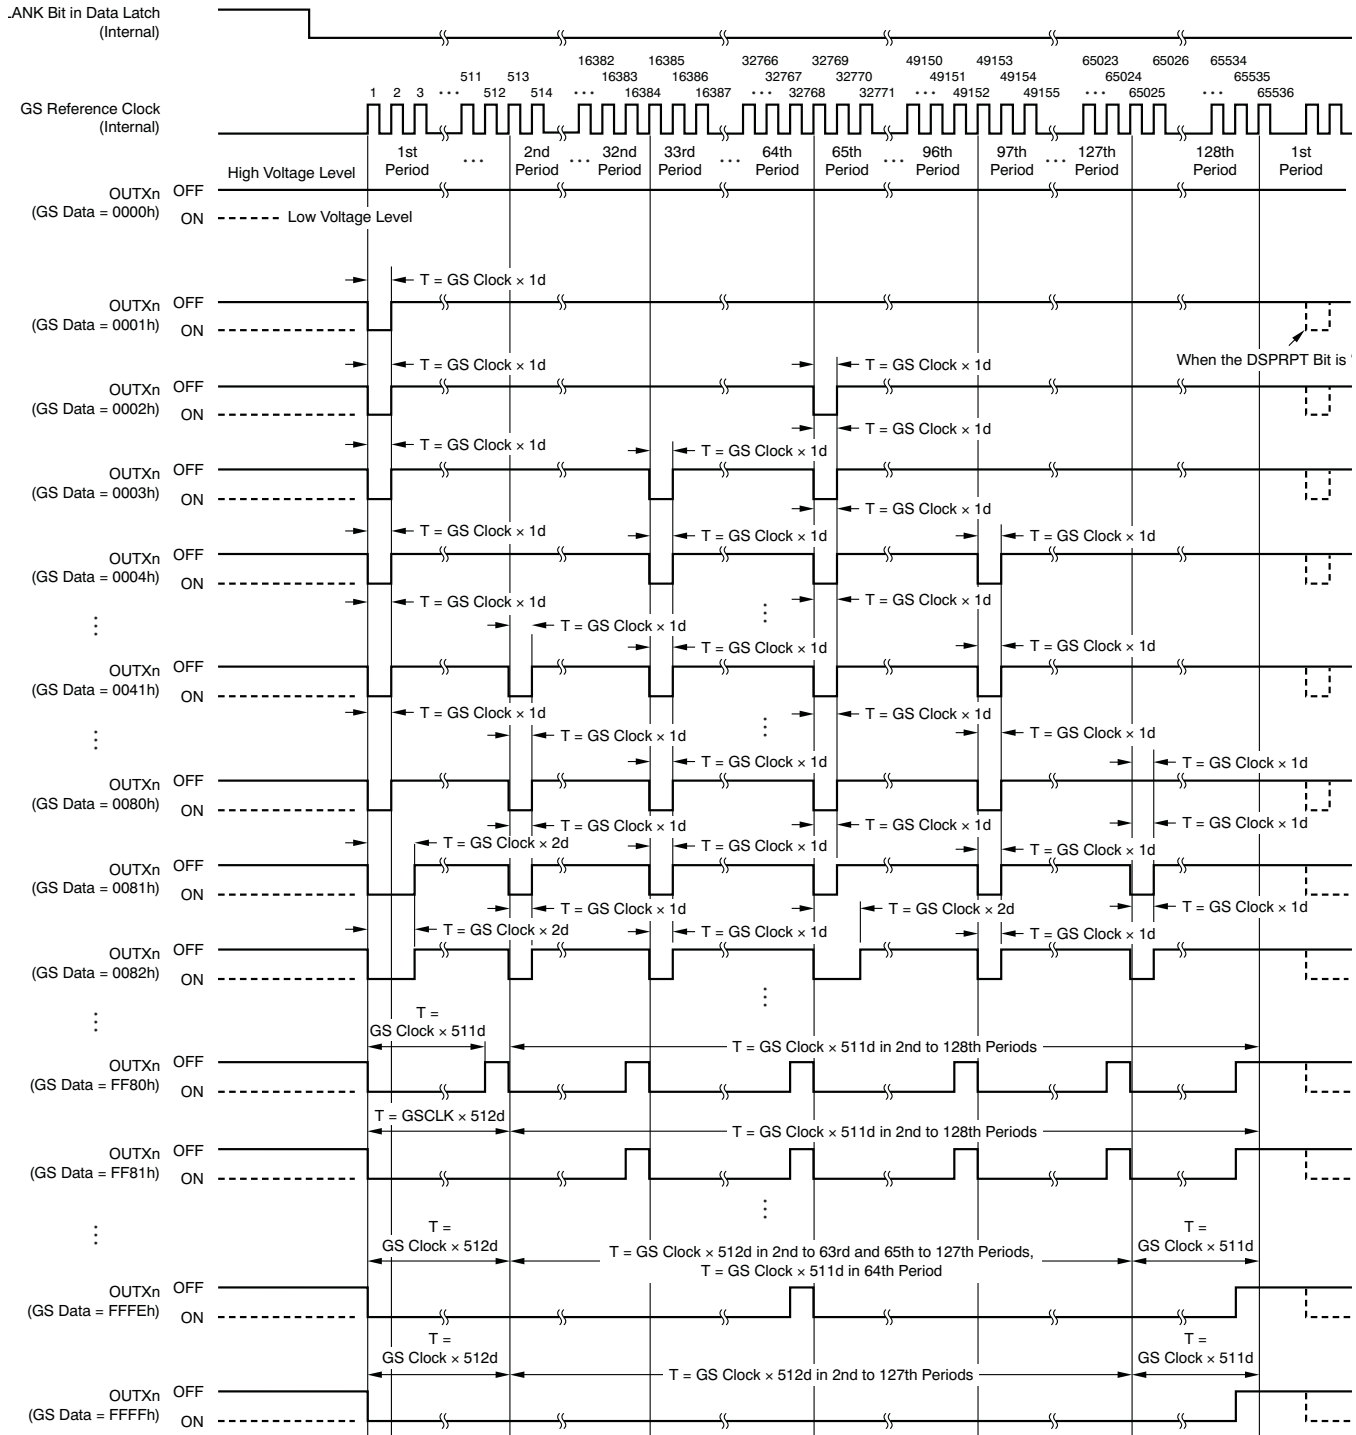

Figure 23. ES-PWM Operation
Enhanced spectrum (ES) PWM has the total display period divided into 128 display segments. The total display period refers the period between the first grayscale clock input to the 65536th grayscale clock input after BLANK (bit 213) is set to '0'. Each display period has 512 grayscale values, maximum. Each output on-time changes depending on the grayscale data. Refer to Table 4 for sequence information and Figure 23 for timing information.